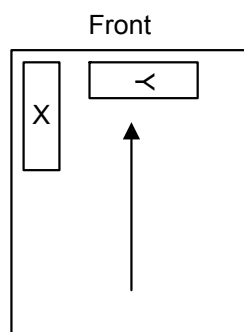

Figure 2
2. By convention, the positive end of the X-axis points to the North and the positive end of the Y-axis points East. See **Figure 2**.